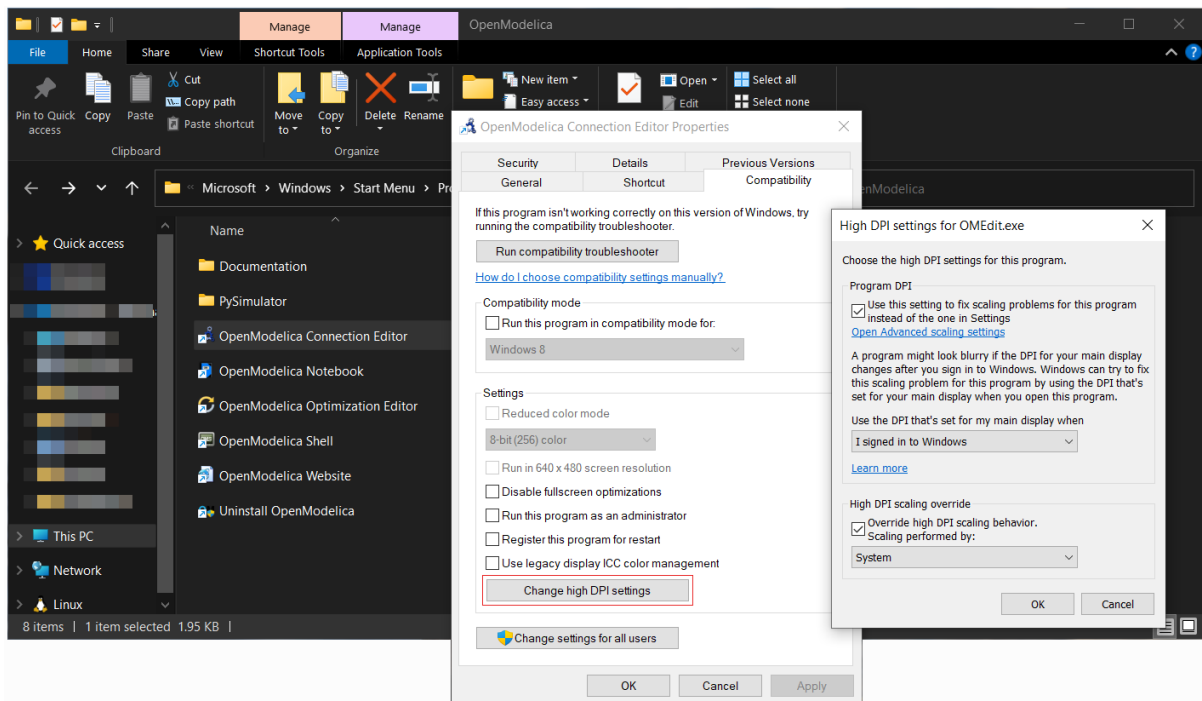

Figure 3.25: Change high DPI settings for OMEdit.exe
3. In the properties window go to tab *Compatibility* and open *Change high DPI settings*. In the *High DPI settings for OMEdit.exe* choose *Use the settings to fix scaling problems for this program instead of the one in Settings* and *Override high DPI scaling behavior:Scaling performed by:* and choose *System* from the drop-down menu, Figure 3.25.